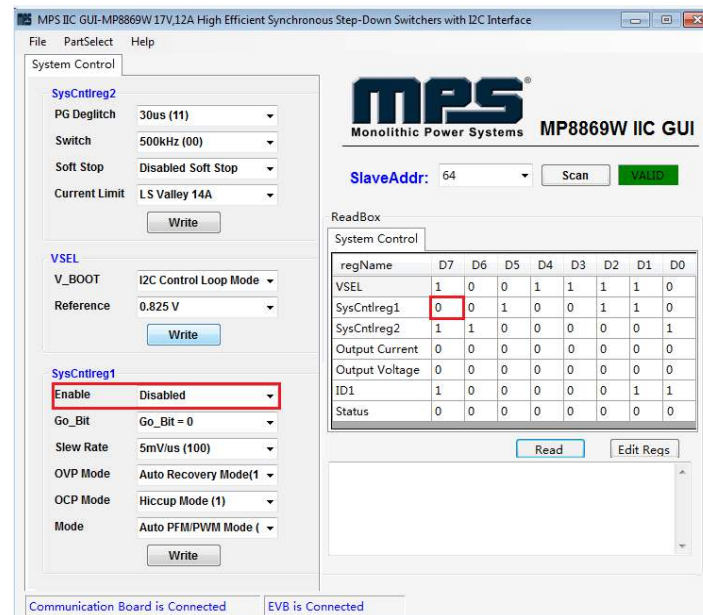

Figure 10: Refer to Datasheet to Translate 0s and 1s
- Click the “Read All” button to update values. The changed information will appear on the right side (see Figure 10).